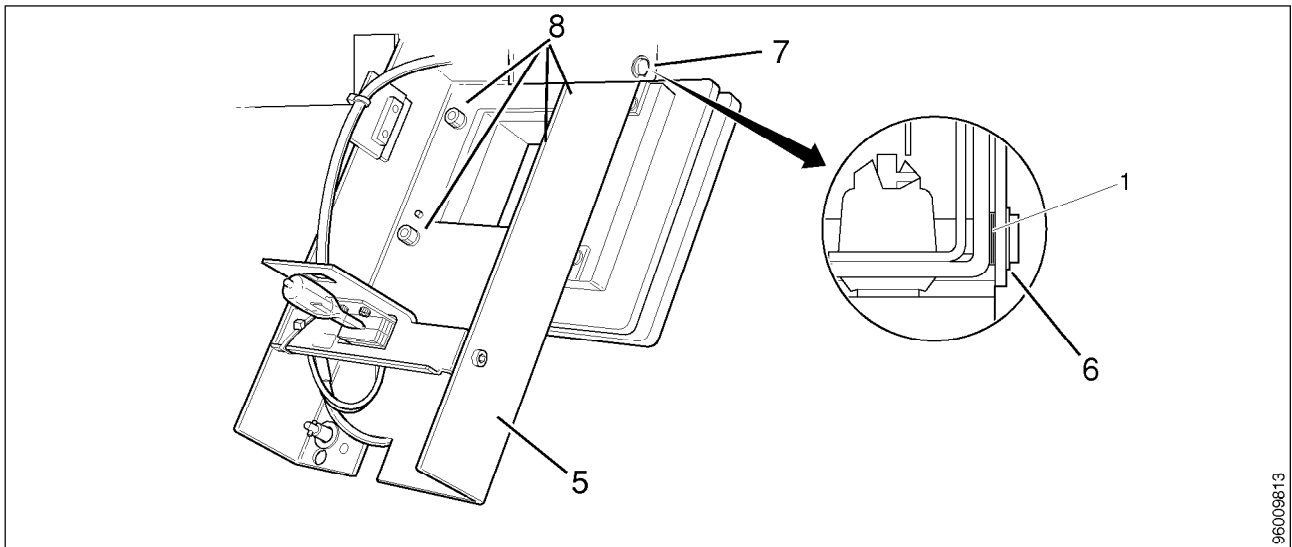

Fig. 5
- Remove the circlip (6/Fig. 5).
- Pull out the shaft (7/Fig. 5).
- Remove the collimator support (5/Fig. 5).
- Remove the 4 screws (8/Fig. 5).